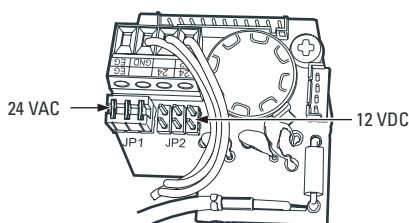

Figure 5. Voltage Jumper Settings
- b. Reset the voltage jumper located on the camera power board inside the base of the Camclosure (Refer to Figure 5). Remove the jumper from AC position and reinstall the jumper on the DC position.
- b. Reset the voltage jumper located on the camera power board inside the base of the Camclosure. Refer to Figure 5. Remove the jumper from AC position and reinstall the jumper on the DC position.